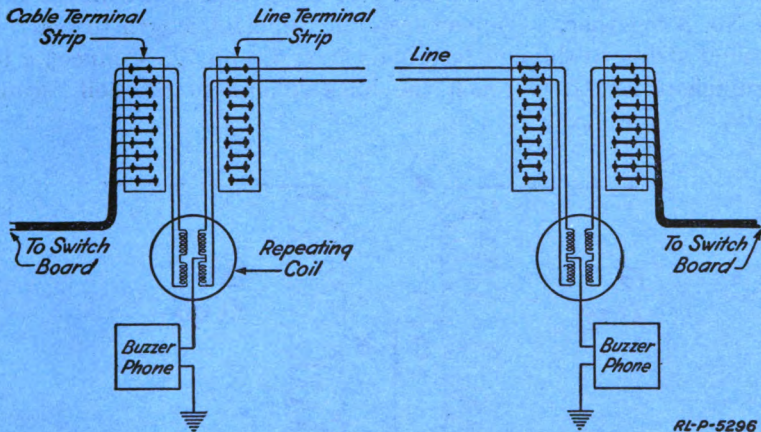

Fig. 48.—Buzzerphone simplex circuit
When employing the buzzerphone, either a full metallic or a ground return circuit may be used. It is usual to make use of existing telephone circuits where possible and by means of "simplexing" to provide a circuit for the buzzerphone without laying an additional circuit. In this way a telephone circuit can be used for buzzerphone transmission at the same time that it is being used for telephone conversations. This is accomplished by inserting a repeating coil at both ends of the circuit as shown in Fig. 48. It can be seen that both sides of the telephone circuit are used as one side of the buzzerphone circuit.
3. Remove the jumper connections between the line and cable terminal strips and connect the Nos. 4 and 7 leads to the line terminal strip and the Nos. 2 and 5 leads to the cable terminal strip. Connect the lead from the No. 3 or 8 terminal to the "Line" binding post of the buzzerphone. (See Fig. 48.)